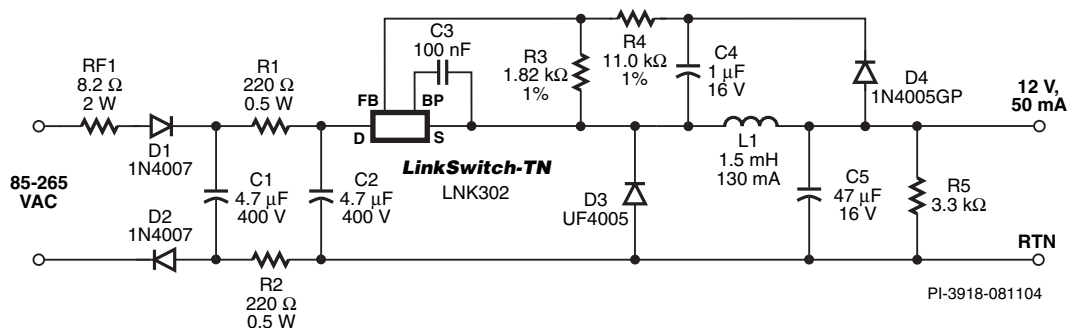

Figure 1. LinkSwitch-TN 0.6 W, 12 V, Universal Input Power Supply Using a Non-Isolated Buck Topology.
Using the buck topology, the circuit shown in Figure 1 generates a non-isolated 12 V, 50 mA output. Typical uses include utility meter and industrial and motor control applications.
- The circuit shown in Figure 1 has a total output voltage tolerance of $\pm 10\%$ ($-20\text{ }^{\circ}\text{C}$ to $+85\text{ }^{\circ}\text{C}$ ambient temperature).